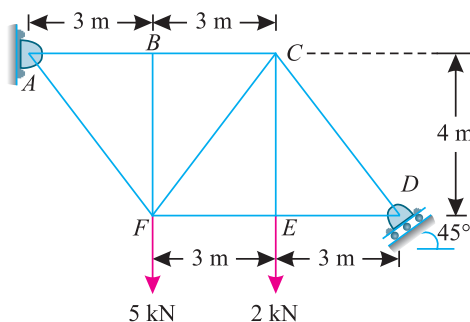

Fig. 13.52.
**Example 13.16.** A truss hinged at A and supported on rollers at D, is loaded as shown in Fig. 13.52.